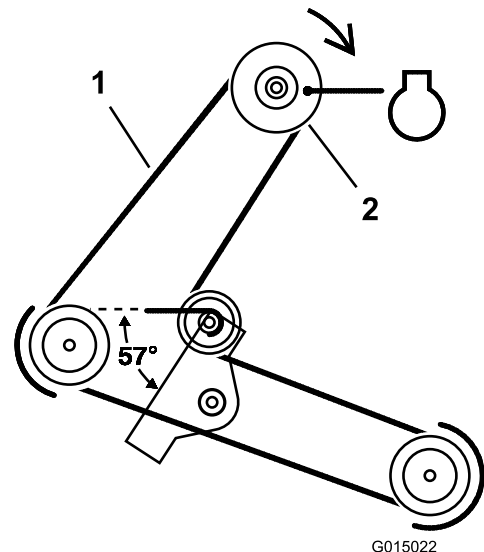

Figure 35
5. Remove the mower belt from the electric-clutch pulley (Figure 35).
5. Install the mower belt onto the electric-clutch pulley (Figure 35).